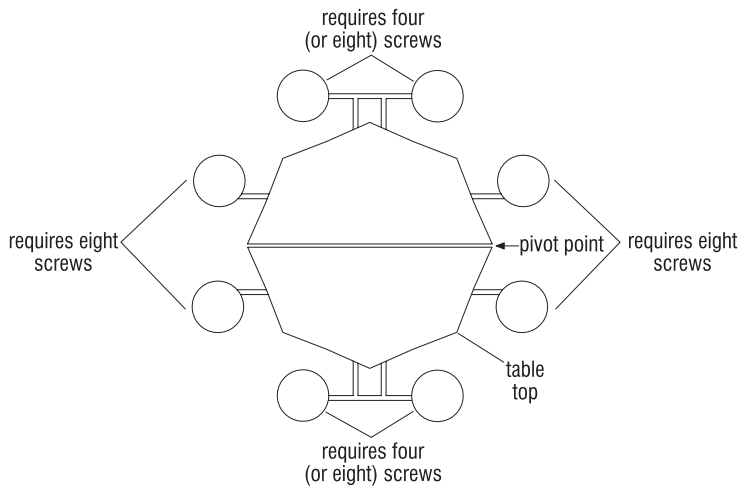

Figure 1
1. Stools that will be installed near the pivot point of the table are required to use all eight mounting locations. Stools located away from the pivot location are only required to use the four outer corner mounting locations (Figure 1).